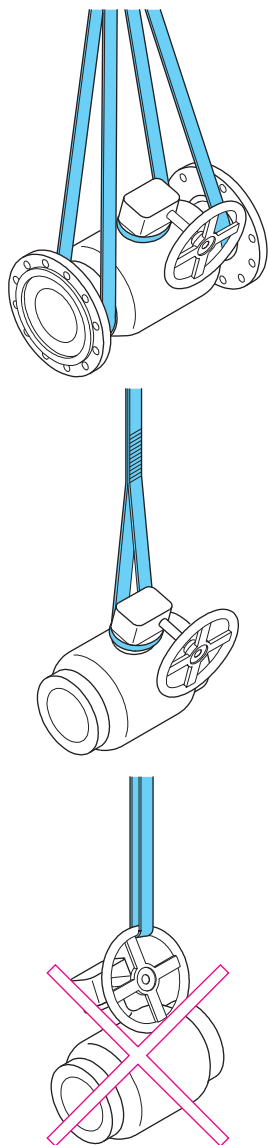

Figure 2. Lifting the valve \leq DN 600 reduced bore.
Use lifting ropes when lifting the large size valves. It is forbidden to lift the valve by its actuator or stem (see Figures 2 and 3).
- Use one of the allowed lifting methods shown in Figures 2. and 3.